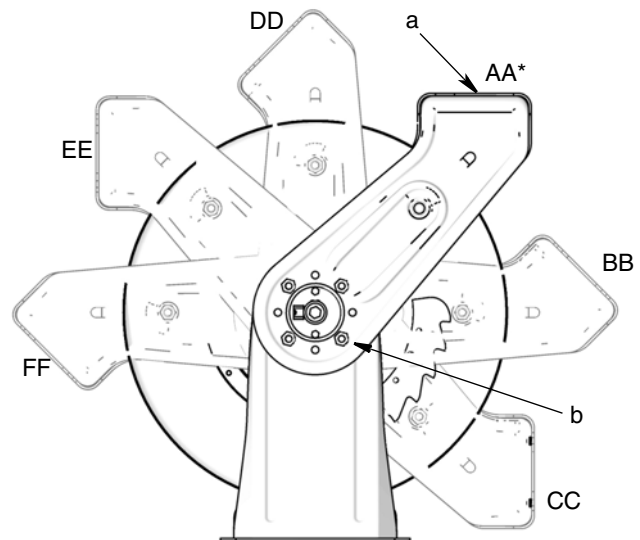

FIG. 3
3. Determine the desired position of the roller support arm (a) (FIG. 3).
- The cord reel is factory-assembled and shipped with the roller support arm (a) in position AA* (FIG. 3). If that position is desired, skip step 4.
4. To reposition roller support arm to any other position than the Ship Position (AA):